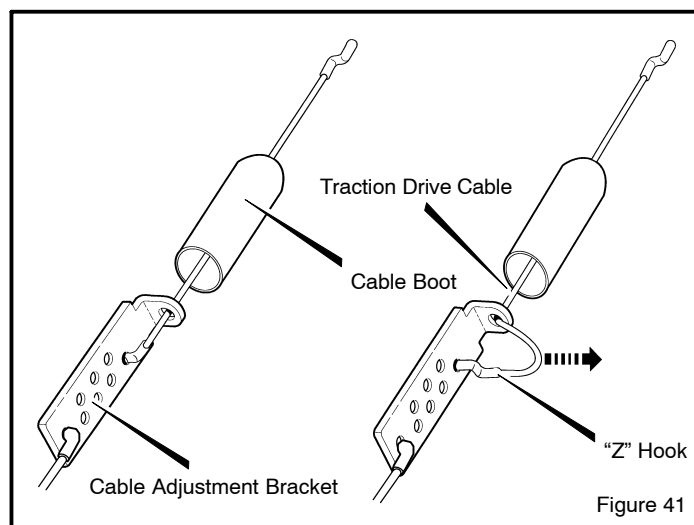

Figure 41
4. Slide the **cable boot** off the **cable adjustment bracket** (see Figure 41).